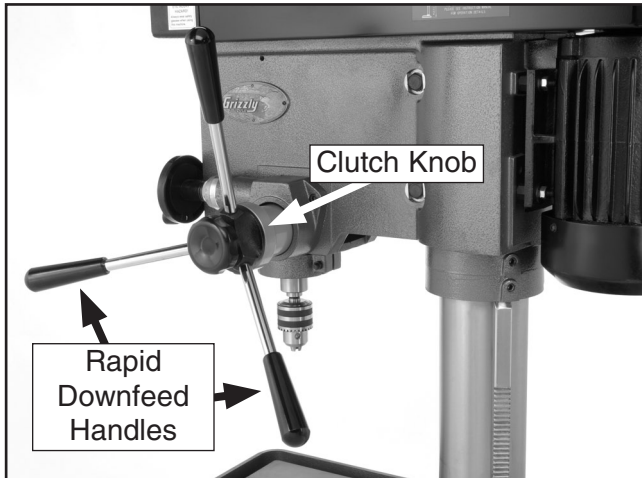

Figure 16. Rapid downfeed control.
1. Rotate the clutch knob (see **Figure 16**) counterclockwise until it stops.
1. Rotate the clutch knob clockwise until it stops (see **Figure 16**).